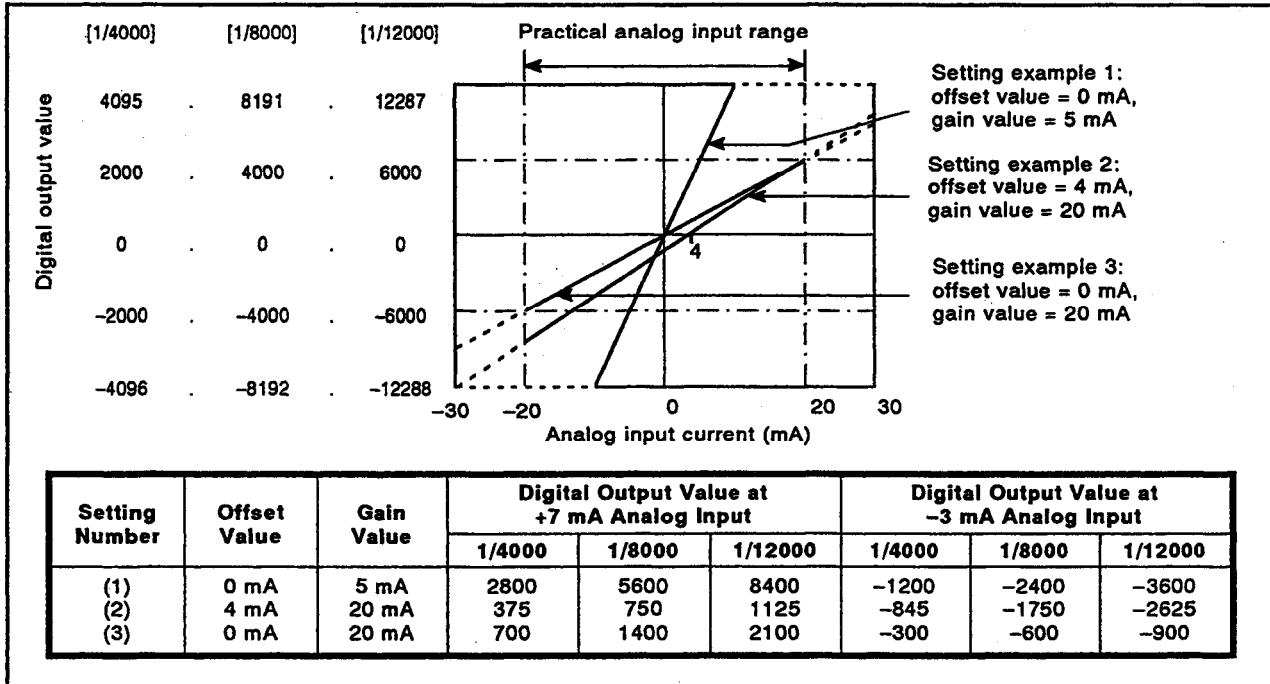

Fig 3.3 Voltage Input Characteristics
- (1) Do not input a voltage ± 30 mA or more. Otherwise, a high temperature will occur and cause a problem.
- (2) When the input voltage is from -20 to 20 mA, the maximum resolution and overall accuracy is in the range of specifications. However, if the input voltage is not within this range, the accuracy does not sometimes match with the specifications. (Do not use the value within the range corresponding to "-----" in the figure 3.3.)
- (3) When the analog is input, which causes the digital output value beyond the maximum (4095, 8191, or 12287) or minimum (-4096, -8192, -12288) of the digital resolution, the digital output value is fixed to the maximum (4095, 8191, or 12287) or minimum (-4096, -8192, or -12288) of the digital resolution.
- (4) Follow the conditions below to set the offset/gain. If the settings do not match these conditions, correct characteristics cannot be guaranteed. This disables the A-D conversion completed flag (Buffer memory address: 19) from turning ON.